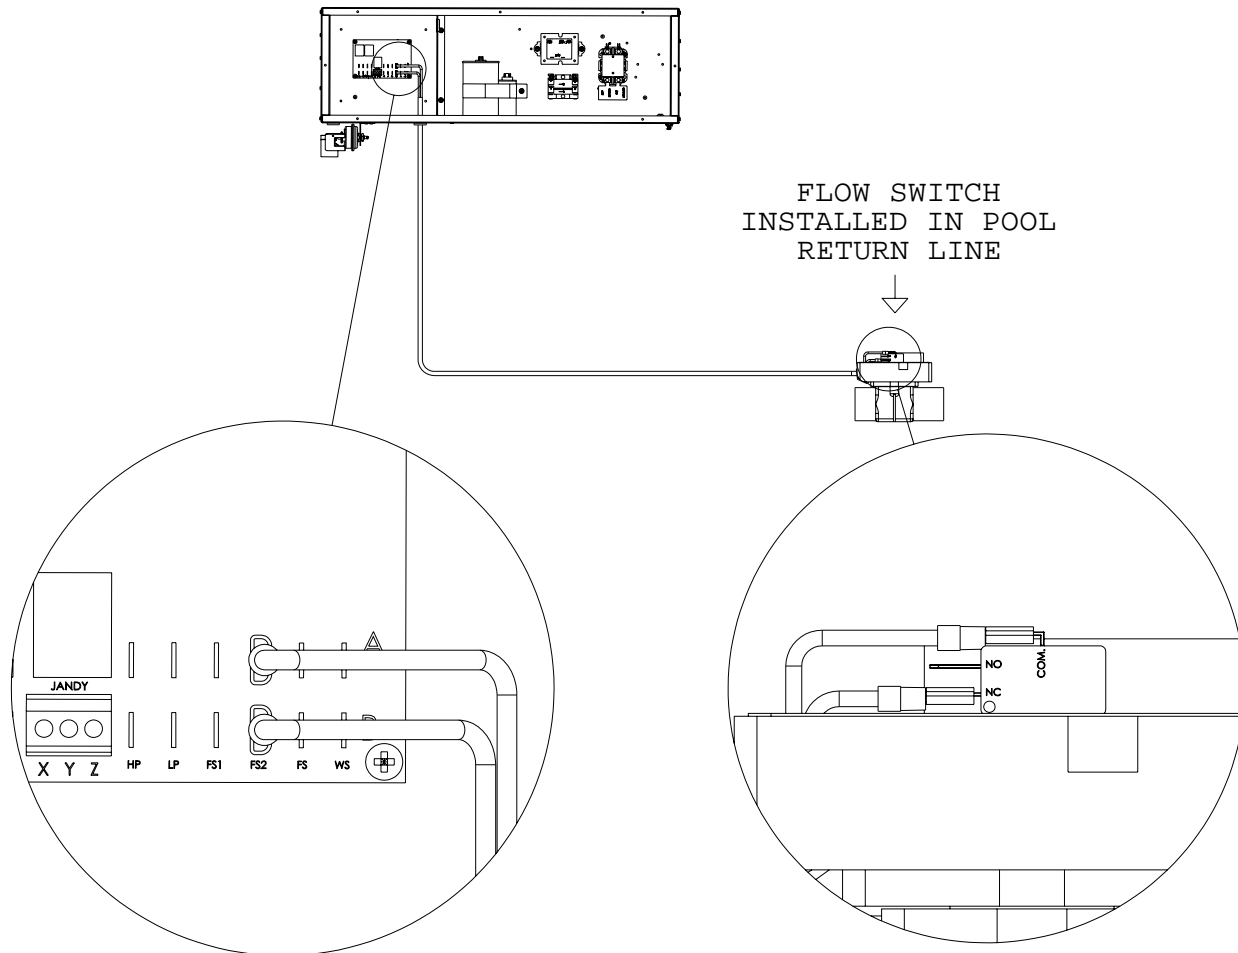

FIGURE 1
4. Locate the Microprocessor Power Board inside the electric box. (see figure 1)
5. Connect the cable with female quick disconnects already attached to the terminals marked **FS2 A and B** on the Microprocessor Power Board. (see figure 1)